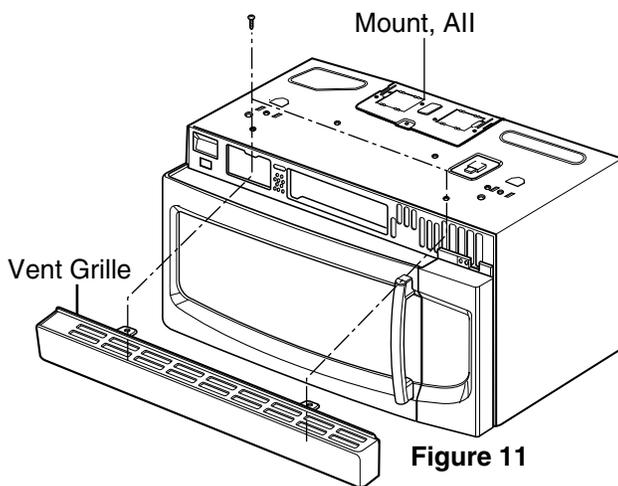

Figure 11
(Figures 11 and 12)
- (1) Remove the vent grille by loosening two screws. (Figure 11)
- (2) Remove the outside case. See page 7-6.
- (3) Remove the controller ASS'Y.
- (4) Disconnect the leadwire.
- (5) Remove a screw securing the magnetron guide the the magnetron.
- (6) Remove four tap tite screws securing the magnetron to the wave guide.
- (7) Disconnect the leadwire.
- (8) Remove the magnetron VERY CAREFULLY.